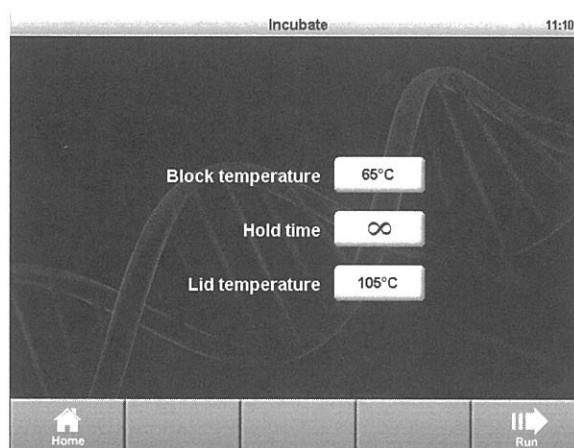

Figure 20. The Incubate screen.
1. Touch **Incubate** from the home screen. The **Incubate** screen opens (Figure 20).